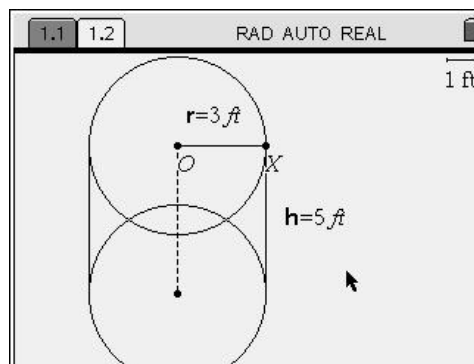

Figure 19
19. Store the radius and height as variables. Move the arrow to the radius measurement. When the hand appears, press ENTER . The measurement should appear shaded. Next press CTRL STOP VAR . Type R to overwrite var, and press ENTER . Repeat this process to store the height as **h**. The **r** and **h** will be bold to indicate that they are variables. (Figure 19)